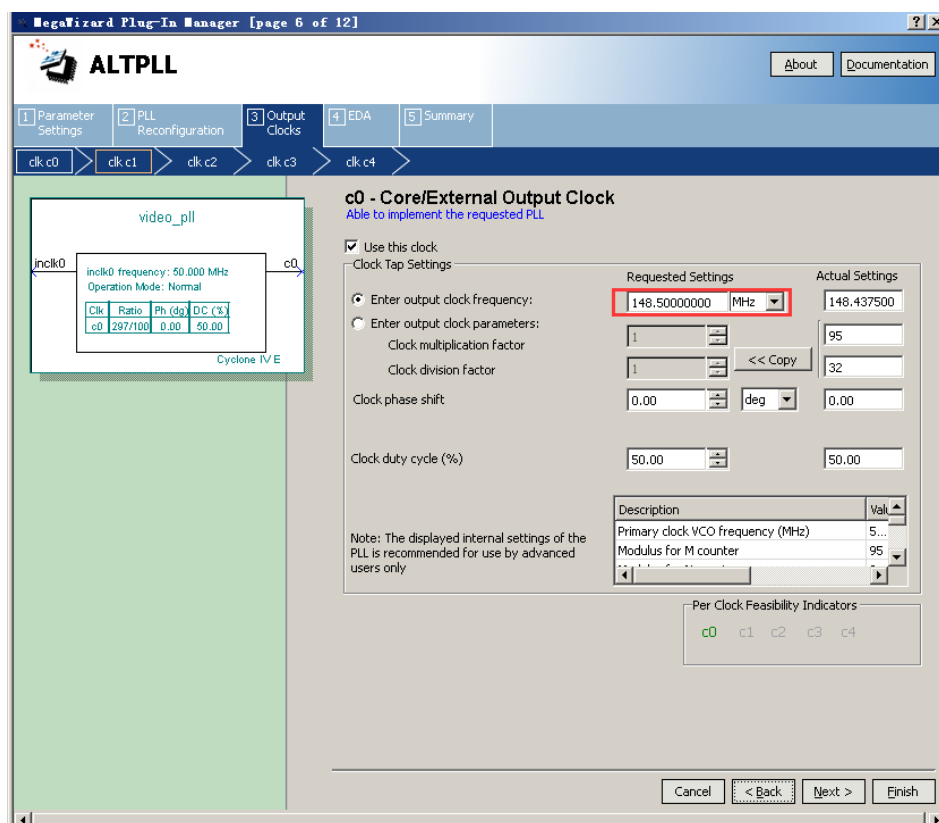

Figure 4-6: Modify the output clock frequency of PLL
2. Modify the output clock frequency of PLL, the default output clock frequency is 1080P (148.5M) , you need to modify the value marked in Figure 4-6. The output clock frequency of different resolution remarked in the programs.